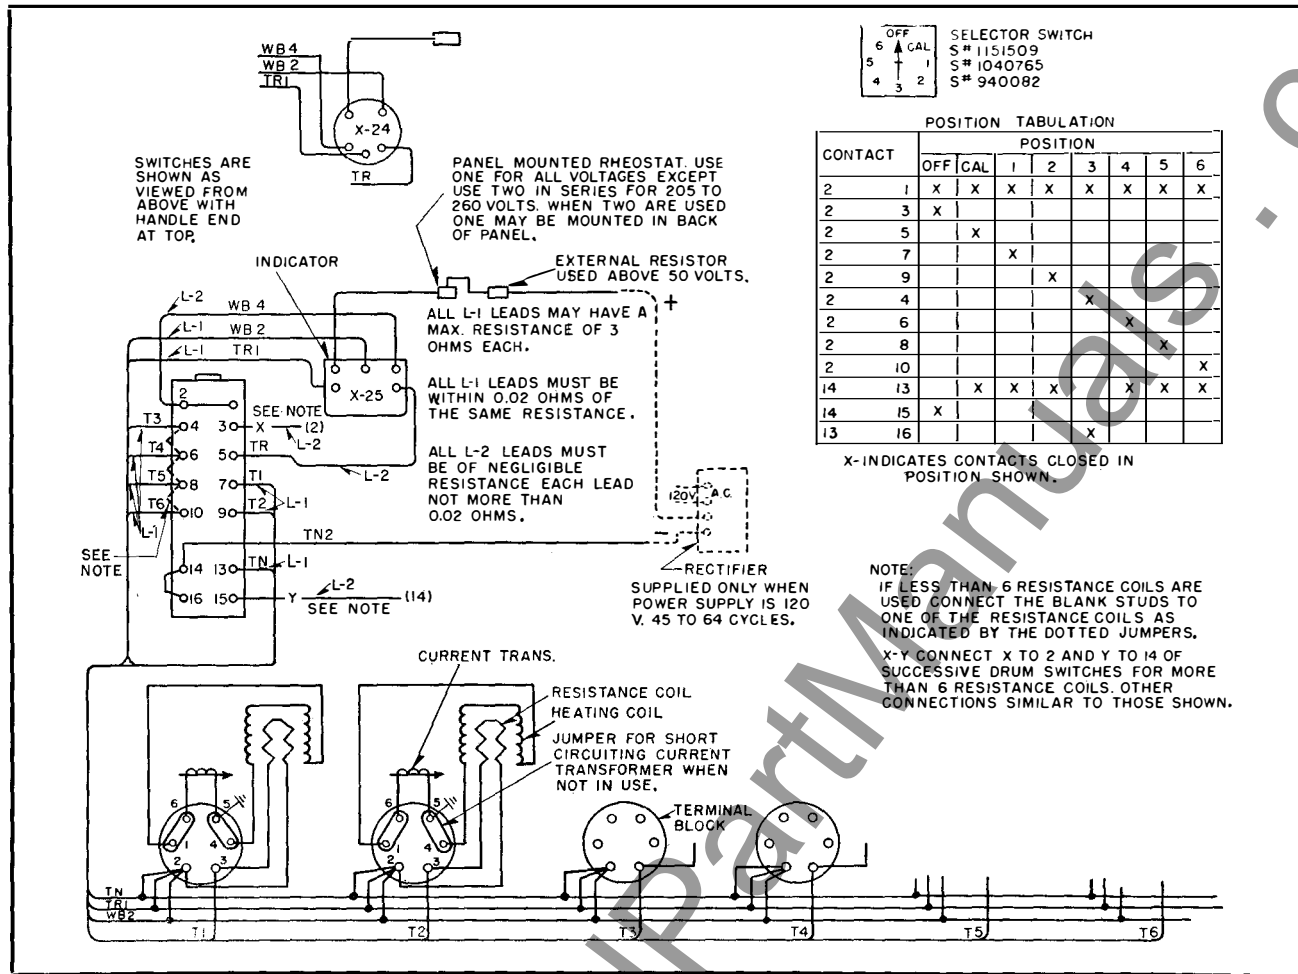

FIG. 3. Wiring Diagram for Temperature Indicator.
6. Mount the temperature indicator and resistance bridge on the switchboard and connect to the terminal box on the transformer as shown in Fig. 3 using 19-0226 (9700 C. M.) rubber-insulated weatherproof cable, or larger.